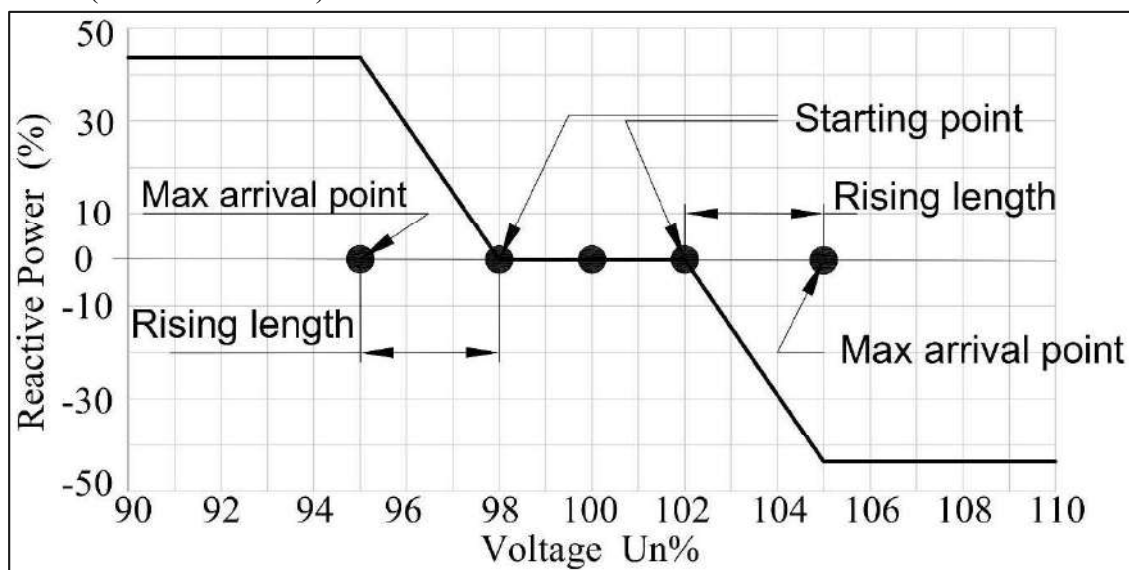

Figure 3.19 QU curve when power factor is 0.9,
- **Reactive Power-Vol curve:** Reactive power-voltage amplitude curve abide by Universal standard. Please set the following parameters as required: *Starting point of Q-U%*, *Rising length of Q-dU%*. For example, As shown in the figure 3.19, QU curve when power factor is 0.9, From the power factor of 0.9, we can calculate the maximum reactive power as $43.59\% \times \text{apparent power}$).